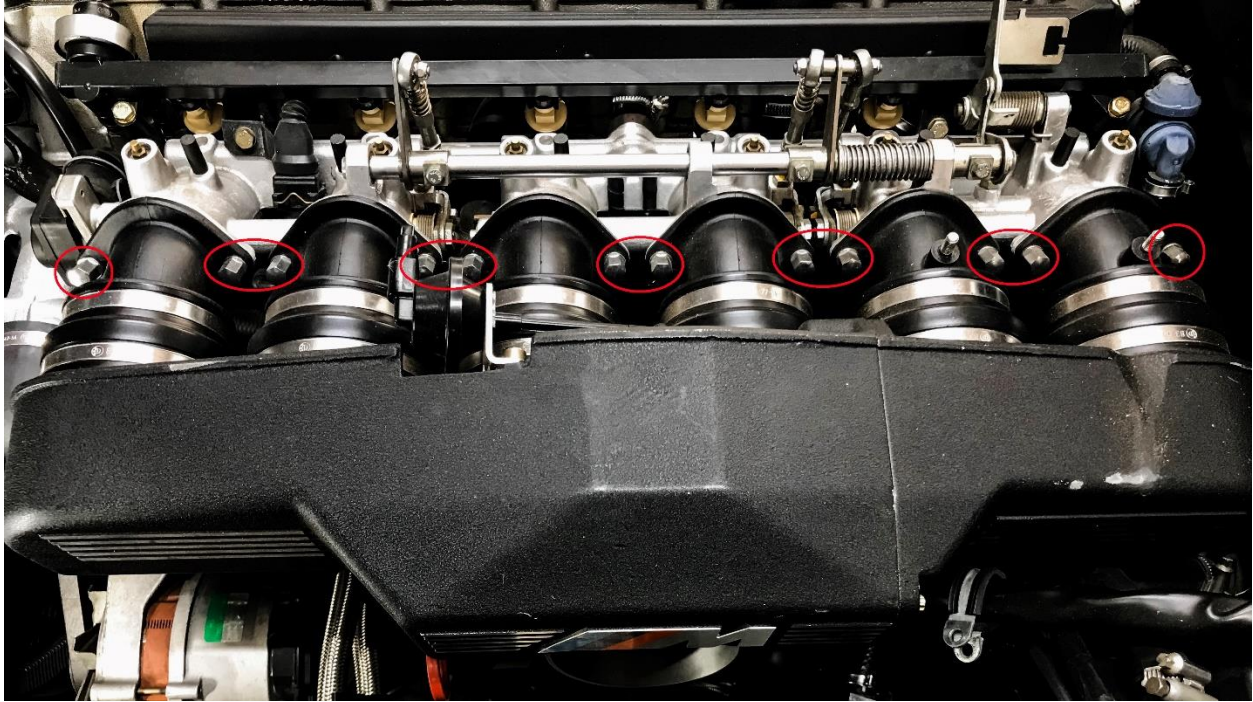

Figure 19
16. Remove all 12X nuts at the throttle body to velocity stack joint using your 10mm wrench. See Figure 19 (S38B36 shown).